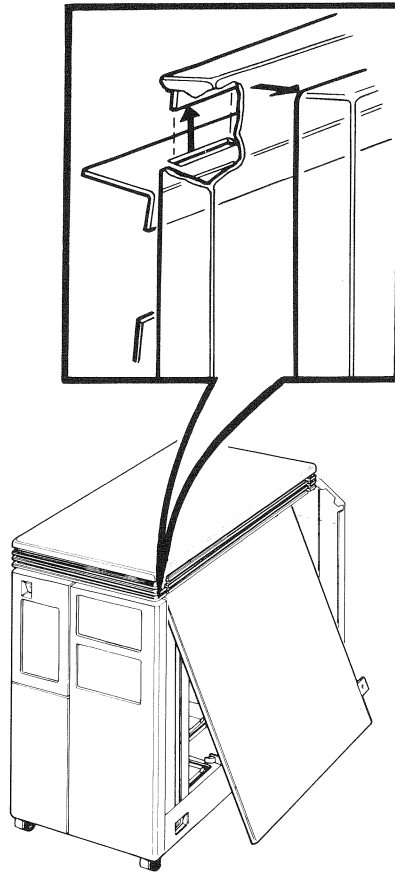

Figure 10-3 Right-Side Panel Removal
5. Lift the panel slightly to release it from the lip at the top of the frame and remove the panel (Figure 10-3).